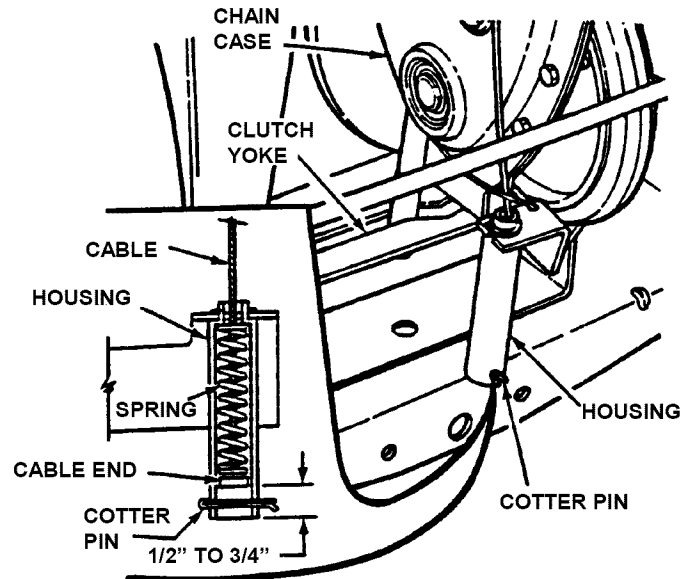

FIGURE 4.9
5. Measure the distance between end of clutch/brake cable and bottom of housing. Measurement should be no less than 1/2" and no greater than 3/4". See inset of Figure 4.9.
7. Adjust cable up or down using the jam-nuts to obtain a distance of 1/2" to 3/4" between end of clutch/brake cable (adjustment shown in inset of Figure 4.9) and bottom of housing. See Figure 4.9.
5. Move transmission shift lever to the neutral (N) position.
6. Rotate clutch yoke (clutch yoke shown in Figure 4.9) out with your hand and work belt between drive disc and rubber driven disc.